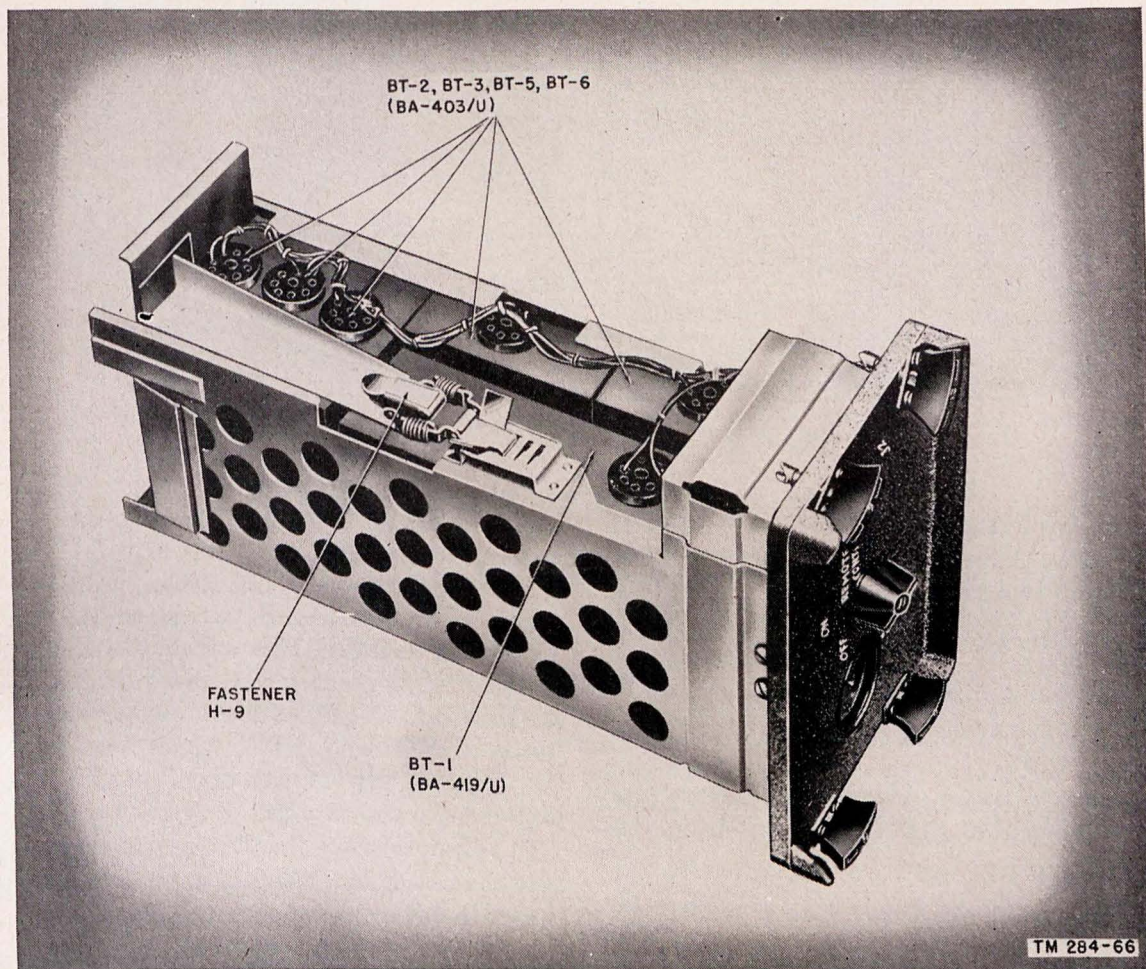

Figure 48. Case CY-590/GRC, case removed, batteries installed.
c. Install five 1.5-volt Batteries BA-403/U and one 90-volt Battery BA-419/U in the case. Connect the batteries as indicated in figure 48. Replace the battery tray in the case.